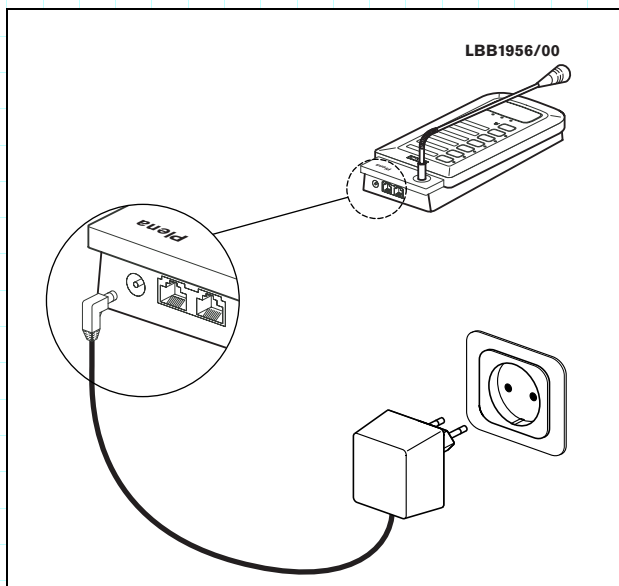

figure 3.5: Connecting a power supply
If the cable between the call station and the voice alarm controller is longer than 100 m, the call station must be connected to a 24 V(DC) power source. See figure 3.5 for connection details.